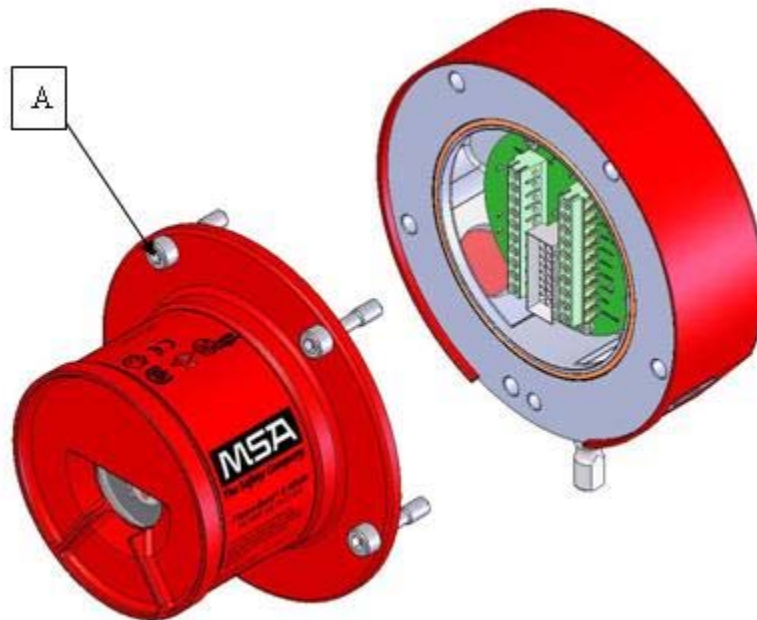
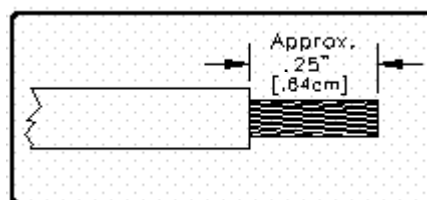

Figure 15: FlameGard 5 MSIR Housing
Figure 18: Wire-Strip Lengths
The following procedure should be used in conjunction with Figure 15:
All wire connections are made through the $\frac{3}{4}$ inch (1.9 cm) NPT openings in the Junction Module (C, Figure 15) to the Terminal Block. The Terminal Block is located on the Junction Module Assembly (F) and accepts 14 AWG (2.08 mm²) to 22 AWG (0.33 mm²) stranded or solid-core wire. Each wire should be stripped as shown in Figure 18.